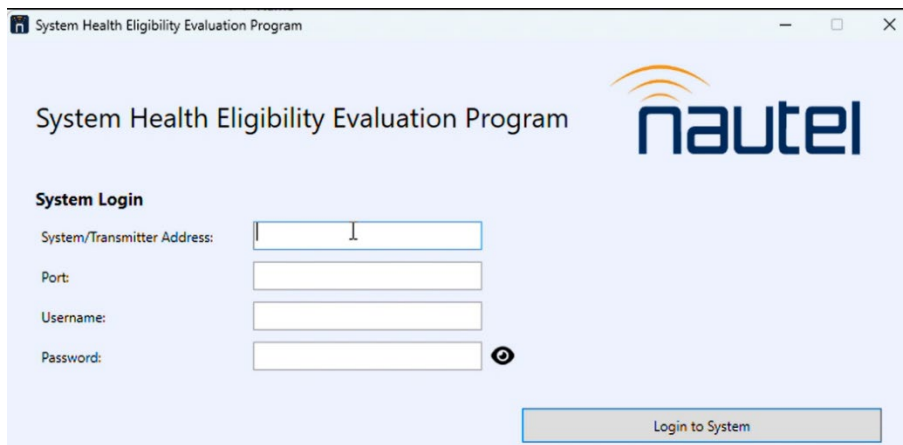

Figure 1: SHEEP login screen
- (c) Run the SHEEP executable file by double-clicking the downloaded file. The screen shown in Figure 1 will display.